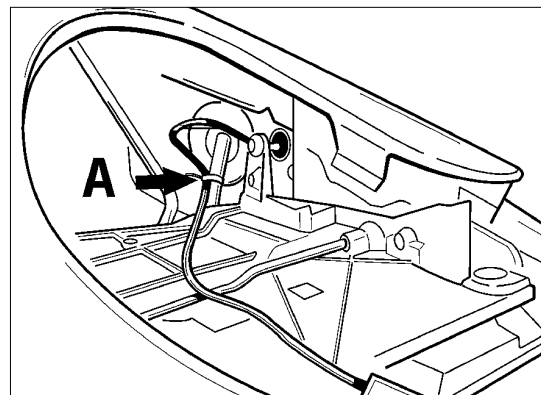

Figure 5
3.5 Attach the harness in the wheel housings to nearby components/wires (Figure 5, Item A).